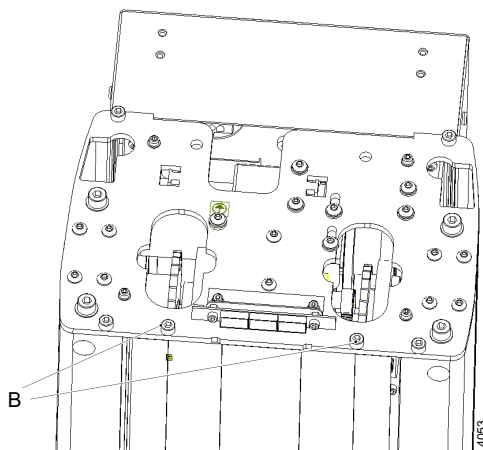

Fig. 4-176 Remove upper screws
15. Insert and tighten the 2 upper screws (B) holding the front aluminium plate, see **Fig. 4-176**.